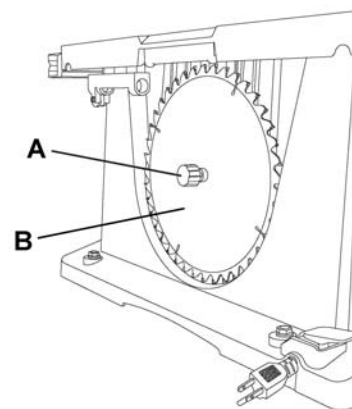

Figure 15
1. Loosen and remove the *knob* (A, Fig. 15) on the left side of the saw housing.
2. Place extra *blades* (B, Fig. 15) onto the bushing. Replace the knob and tighten.